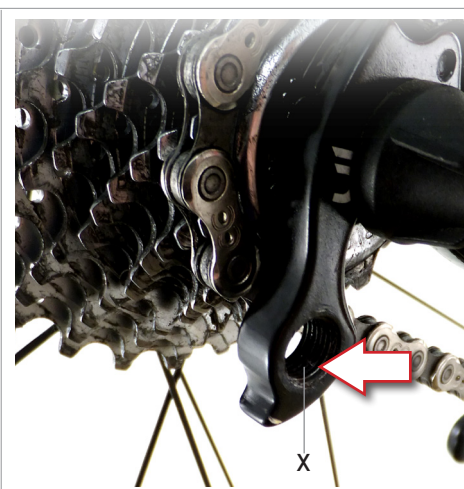

Fig.2
- Chase the threads of the rear derailleur hanger (X - Fig. 2) using a tool tap with threading M10x1.